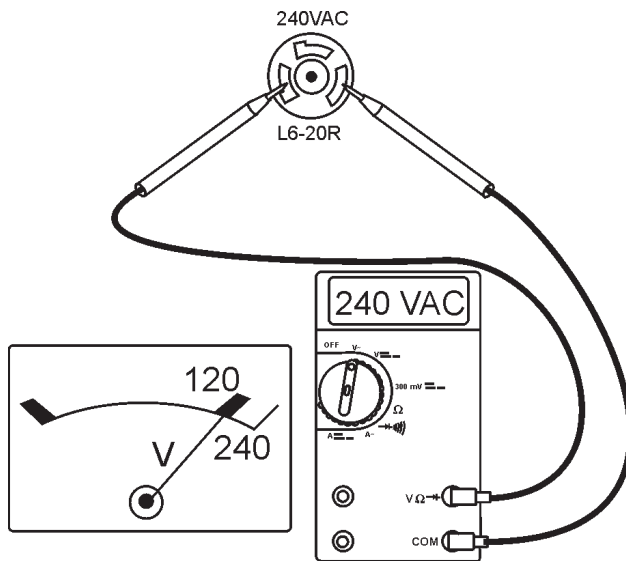

Figure 24. 240V Receptacle
11. Read voltmeter on front panel of generator (Figure 24) and verify that 240 VAC is displayed. Using an external voltmeter as shown in Figure 24, verify that 240 VAC is present at the 240V twist-lock receptacle.